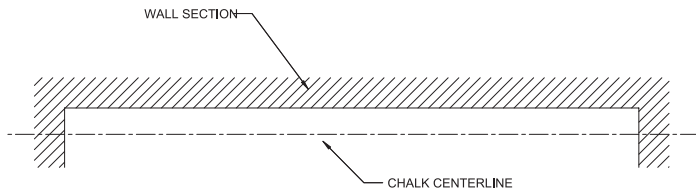

FIGURE P-1
- (1) The floor should be continuous and level under each pedestal. Snap a chalk line on the floor along the centerline of the pedestals. The pedestal centerline should be 4" from the wall for one row pedestals, and 6-1/2" from the wall for two row pedestals. (FIGURE P-1)